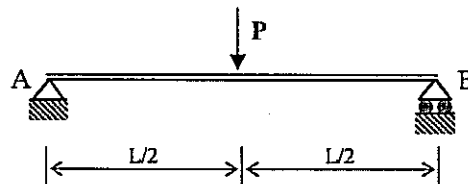

Fig. 4(a)
- a.) Using Castigliano's Theorem determine the vertical deflection at the centre of the simply supported beam in Fig. 4(a), ( $EI = \text{constant}$ ).